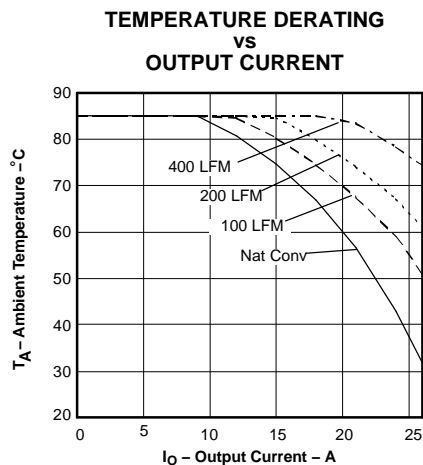

Figure 4.
- (2) SOA curves represent the conditions at which internal components are at or below the manufacturer's maximum operating temperatures. Derating limits apply to modules soldered directly to a 4 in. × 4 in. double-sided PCB with 1 oz. copper. For surface mount products (AS and AZ suffix), multiple vias (plated through holes) are required to add thermal paths around the power pins. Please refer to the mechanical specification for more information. Applies to Figure 4.